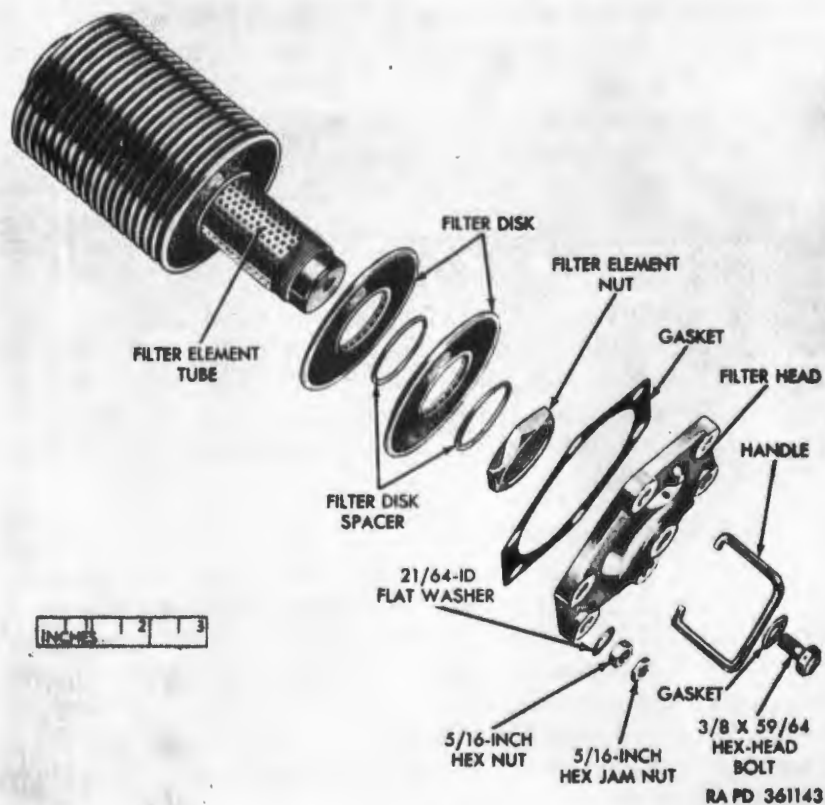

Figure 106. Engine oil filter—exploded view.
c. *Disassembly* (fig. 106).
- (1) Remove hex-head bolt and gasket securing filter head to filter element tube and remove head.
- (2) Remove filter element nut holding filter disks and spacers in position on tube and slide off disks and spacers. Discard filter disks.
- (3) Wash spacers and tube thoroughly in dry-cleaning solvent or mineral spirits paint thinner and dry with low-pressure compressed air.
d. *Assembly* (fig. 106).
- (1) Install new filter disks and spacers alternately on tube and secure in place with filter element nut.
- (2) Install filter head on filter element tube and secure with $\frac{3}{8} \times \frac{59}{64}$ hex-head bolt and gasket.
e. *Installation* (fig. 106). Insert filter with new gasket into accessory case, using same precautions outlined for removal. The filter has a pilot that supports the inner end of the element. The